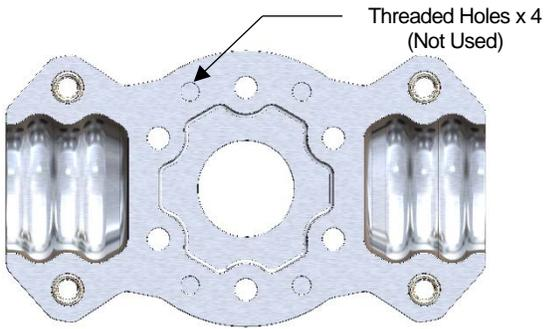

Figure 1: Hub Mount
1. Take note of rotation direction of your propeller blades. Blade models begin with "R" for right hand rotation or "L" for left hand rotation. Each blade has a round side and a flat side. Insert one blade at a time into the hub mounting half with the round side of the blade facing the mount half. Refer to **Figures 1 - 6** for views of the hub halves, blade, spacer plate, and CD-DPA spacer.